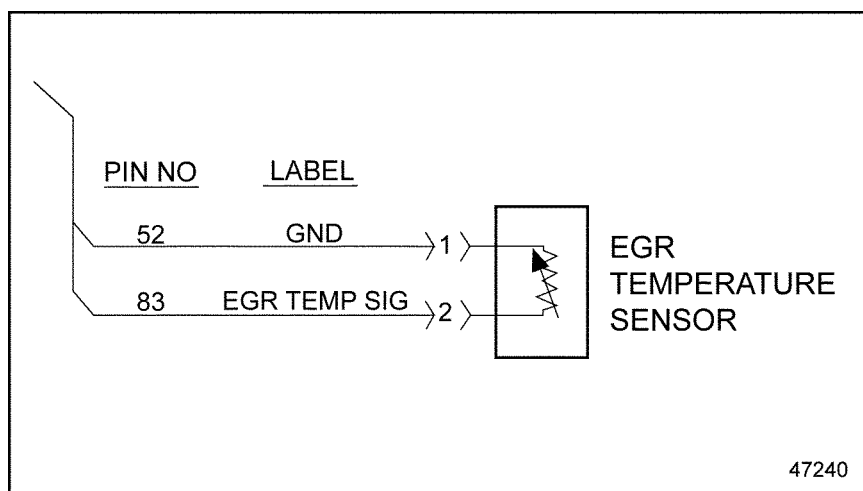

Figure 16-1 EGR Temperature Sensor
- [a] If the voltage is between 2.75 and 3.25 volts, repair the open circuit between pin 1 of the EGR Temperature Sensor harness connector and pin 52 of the 120-pin MCM connector. See Figure 16-1. Refer to section 16.1.1.1.
- [b] If the voltage is less than 2.75 volts, repair the open circuit between pin 2 of the EGR Temperature Sensor harness connector and pin 83 of the 120-pin MCM connector. See Figure 16-1. Refer to section 16.1.1.1.